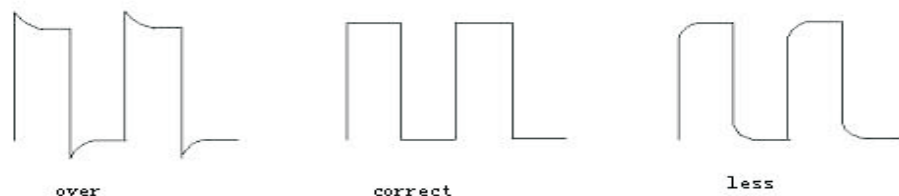

Figure 1-7 The shape of the displayed waveform
- Check the shape of the displayed waveform, as shown in Figure 1-7.